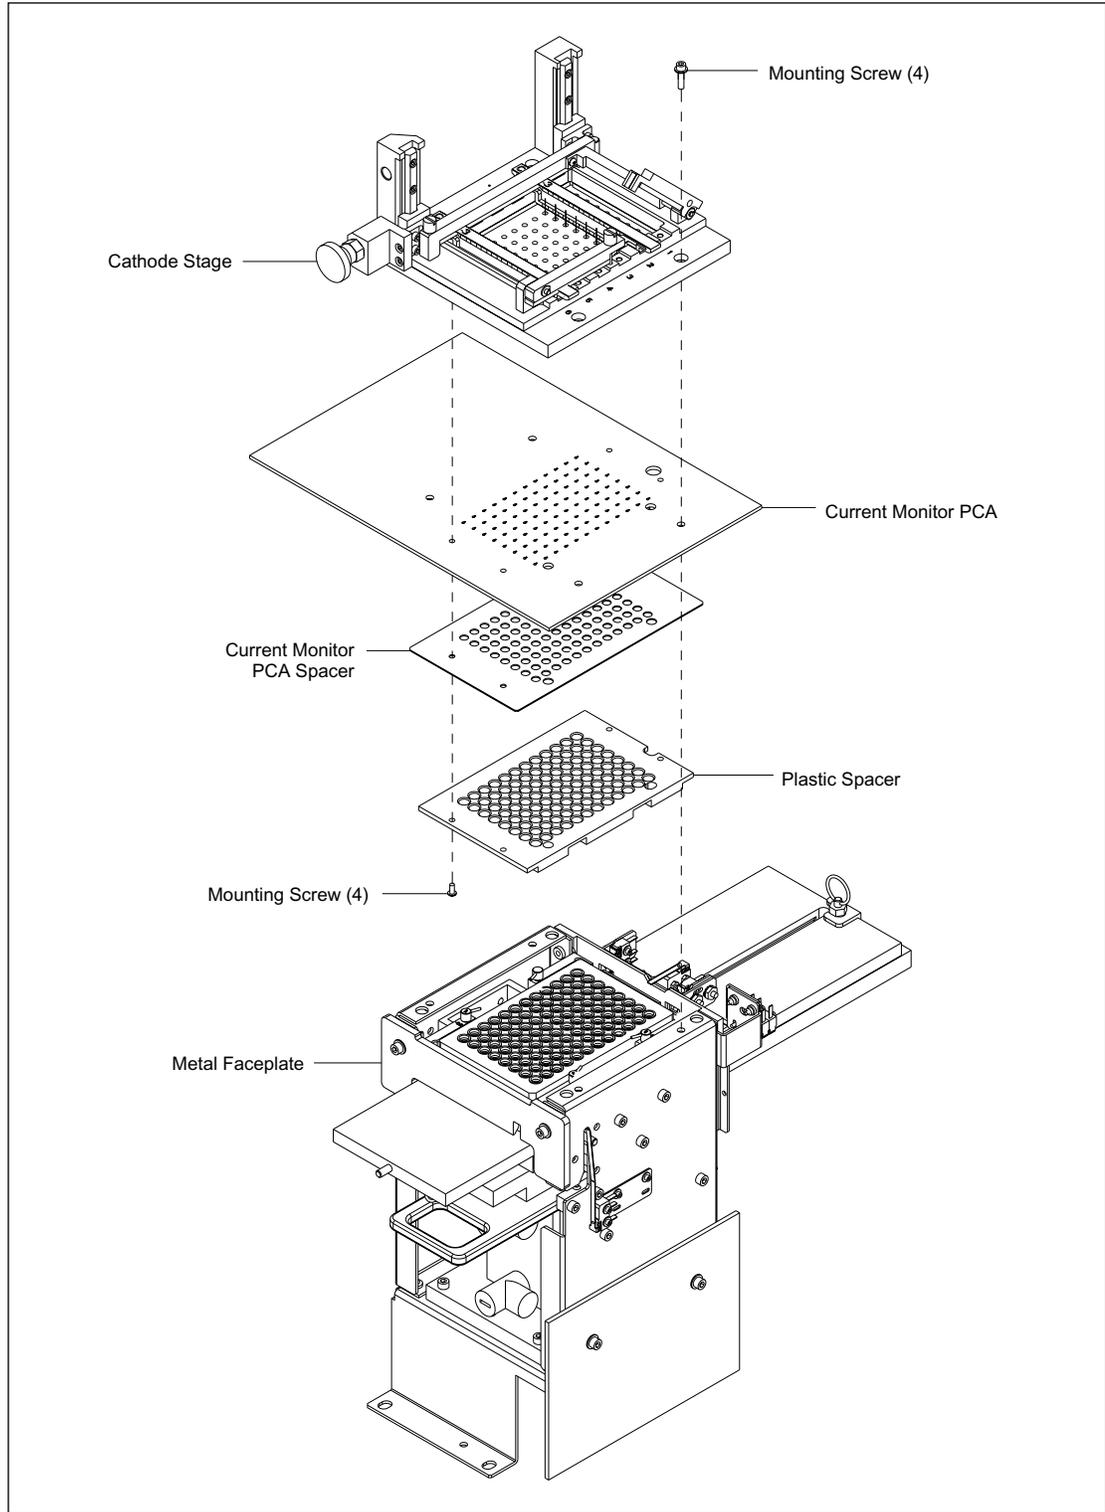

Figure 8-16. Skirted-Plate Cathode.
10. Remove the four screws that secure skirted-plate tray to the plastic slide (figure 8-16).
14. Locate the tray and tank sensors at the back of the cathode and replace the metal levers on the tray and tank sensors with the two (2) Robbins' levers (see section 9.69 for a description of where the sensors are located).